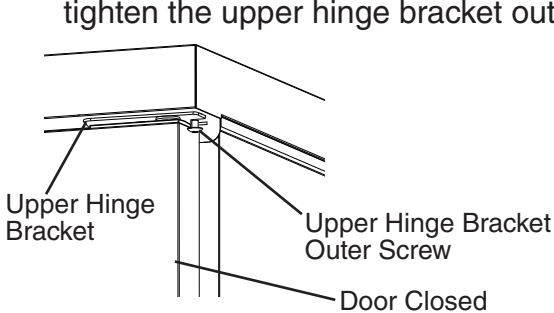
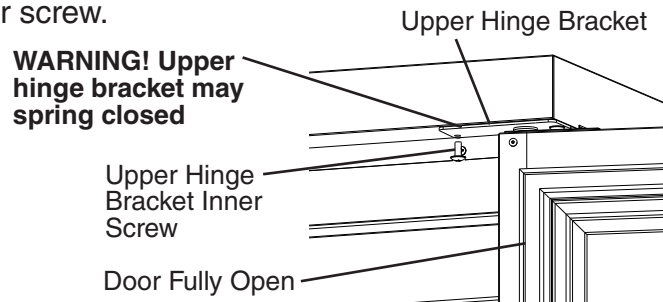

Fig. 11
Fig. 12
- 2) With the door closed, loosen, but do not remove, the upper hinge bracket outer screw. See Fig. 11. Next, open the door to the fully open position and remove the upper hinge bracket inner screw. See Fig. 12.